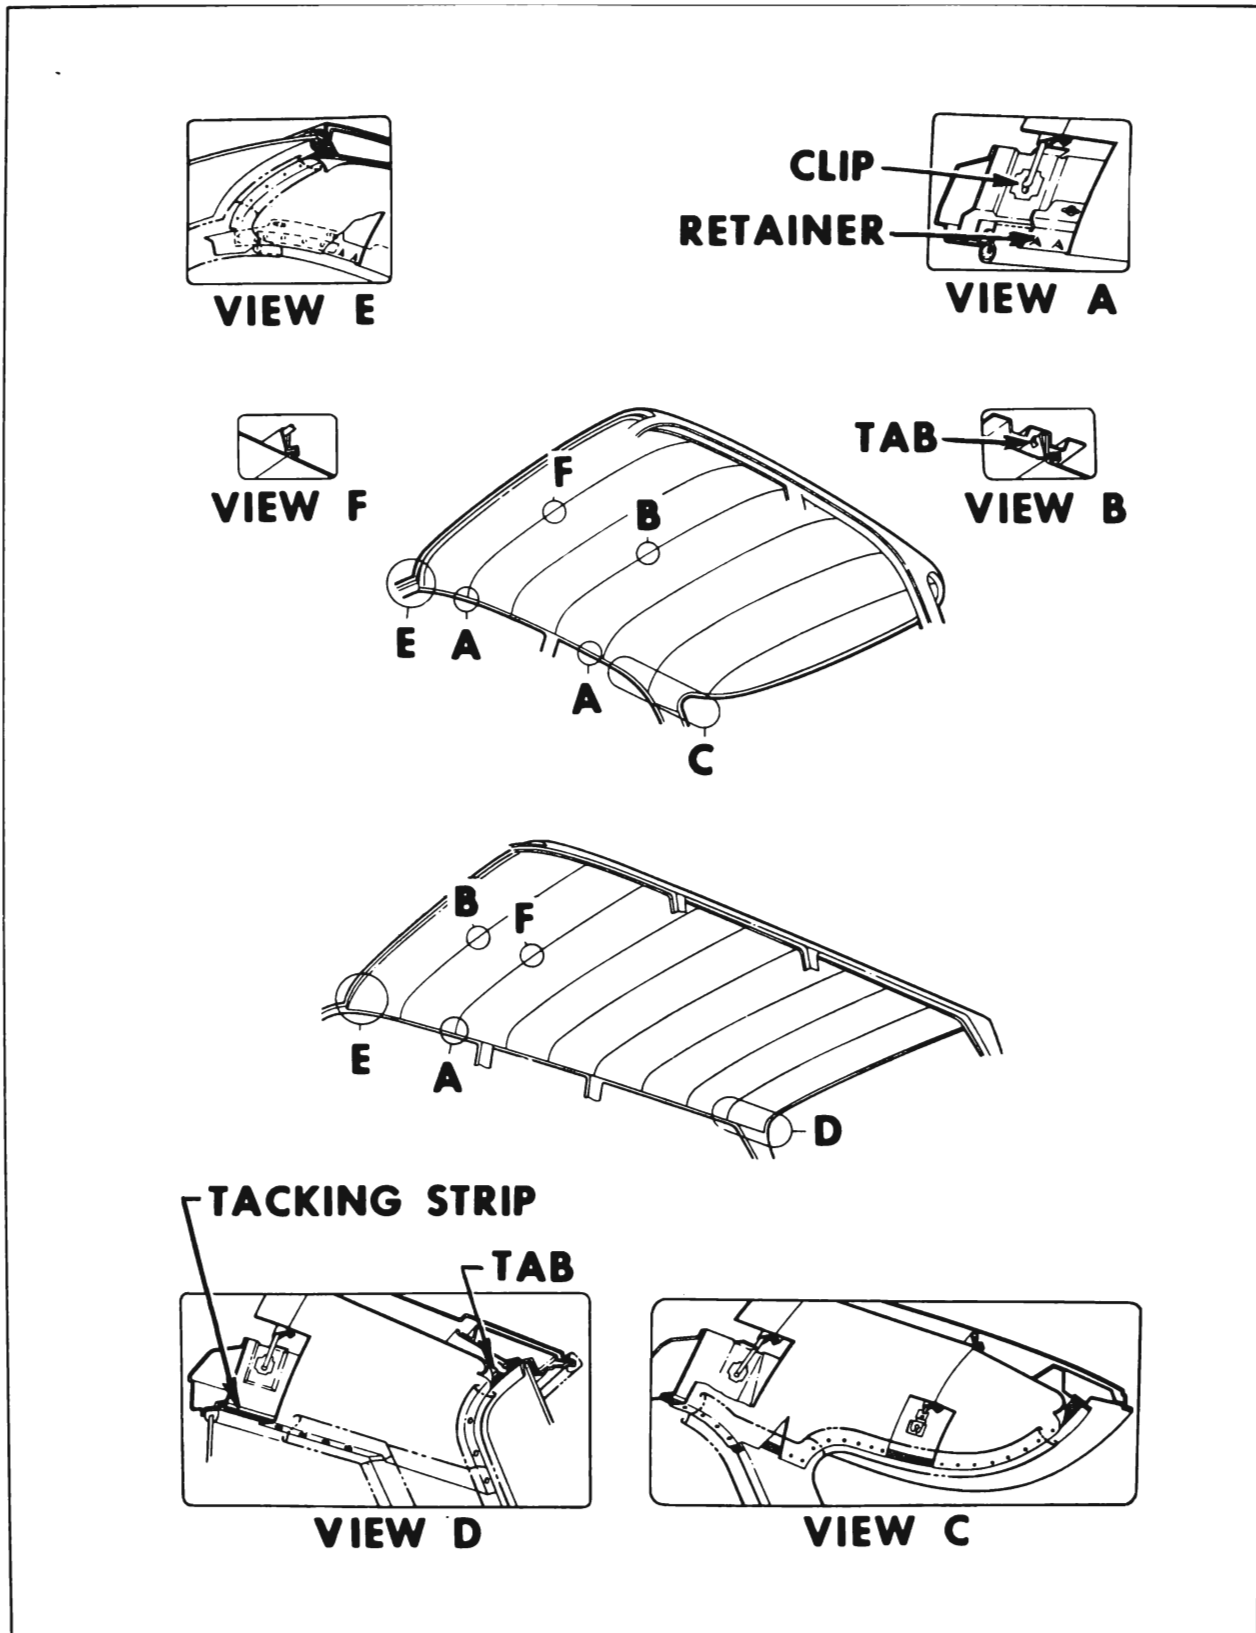
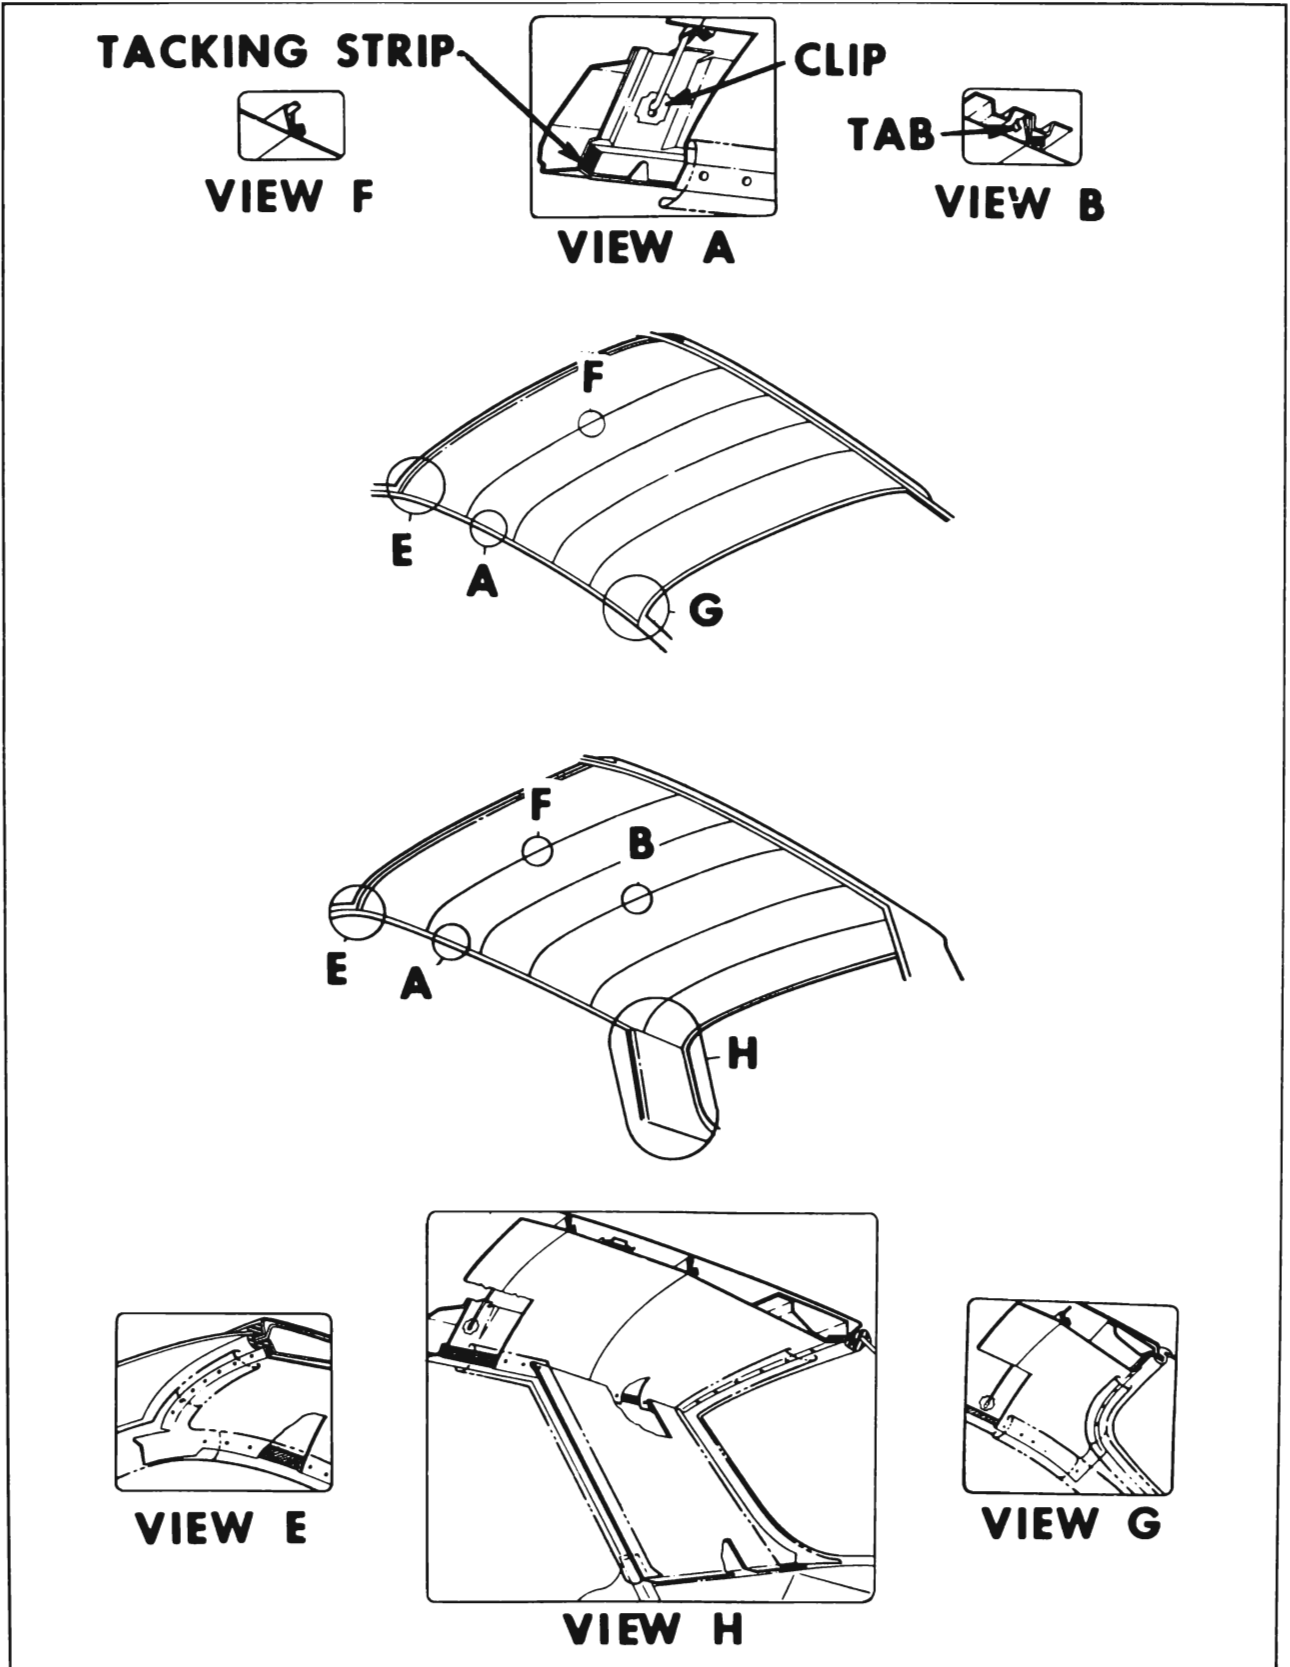

Figure 6-1—Headlining Assembly
Figure 6-2—Headlining Assembly
tool and carefully disengage headlining from retainer tabs (see View "A", Figure 6-1).
5. Working from front to rear of body, disengage headlining listing wires from side roof rails, gathering or folding headlining with listing wires on outside to keep headlining clean. Bend down metal tabs at bows on bodies using tabs to support listing wire (see View "B", Figures 6-1 and 6-2).
6. Disengage headlining on styles using foundation board from metal tabs or retainers at back window (see View "D", Figure 6-1) and remove headlining assembly from body.
IMPORTANT: Note into which hole the ends of the listing wires are installed to insure proper installation (see View "A", Figures 6-1 and 6-2).
2. Center and align rearward end of headlining and engage foundation board where used under metal retainer or metal tabs above back window (see View "D", Figure 6-1). Then working forward, install ends of listing wires into listing wire holes along side roof rail.
NOTE: Make certain listing wires are installed in correct hole in clips to insure proper contour of headlining (see View "A", Figures 6-1 and 6-2).
3. Install balance of listing wires into proper holes in listing wire clips (see View "A", Figures 6-1 and 6-2). Install listing wire where necessary to roof bow metal retaining tabs, center headlining and bend over retaining tabs.
4. Center and align headlining in relation to windshield opening, back window opening, coat hooks and sunshade support locations. Then apply trim cement to headlining tacking surfaces at windshield and back window openings (see Views "C", "D" and "E" in Figure 6-1 and Views "E", "G" and "H" in Figure 6-2), and stretch and stay tack headlining to windshield and back window openings and along side roof rails if tacks are used.
5. Remove all "fullness" and "draws" from headlining material and permanently tack headlining to tacking strips (see View "A", Figure 6-2).
NOTE: On those styles where side roof rail moldings are not used, use headlining inserter tool J-2772 or similar wide-bladed tool and carefully tuck edges of headlining under metal retainer tabs along both side roof rails (see View "A", Figure 6-1).